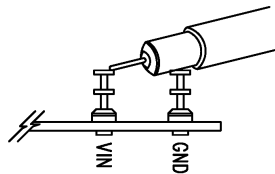

Figure 2. Scope Probe Placement for Measuring Input or Output Ripple
5. Once the proper output voltage is established, adjust the load within the operating range and observe the output voltage regulation, ripple voltage, efficiency and other parameters. See Figure 2 for proper scope probe placement for measuring input or output ripple.